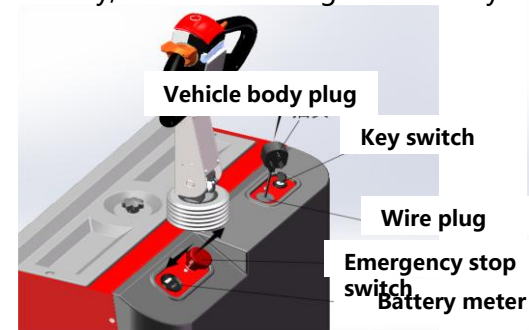

Figure 5-1
5.1.2 Check whether the battery is powered, as shown in Figure 5-1, pull out the main power switch to turn on the main power, open the electric door lock on the handle, and check the energy meter on the vehicle instrument table. If the 0 end is bright, it indicates that the battery has no power at this time, and the battery should be charged. It is forbidden to use the vehicle without power. This will greatly reduce the service life of the battery, and even damage the battery.
5.2.1 Note: This vehicle is equipped with a back-magnetic brake at the end of the drive wheel motor, as shown in Figure 5-1. Pull out the main power switch to turn on the main power supply, unlock the power switch, and push the driving regulator. Only when the back-magnetic brake is powered on and opened can the stacker crane be powered on and operate. In other states, the stacker crane will be de-energized and braked. Ensure that the stacker crane is in a stationary state, the back-magnetic brake is in the locked state, and only then can the goods be lifted. During the lifting process, the vehicle cannot move. When transporting and stacking, ensure that the center of gravity of the goods is at the specified load center position, and the weight of the goods should be less than the weight indicated on the load curve. When stacking, only move forward and backward slowly, and do not perform turning operations.
As shown in Figure 5-1, pull out the main power switch to turn on the main power supply, unlock the electrical door, drive the vehicle to the vicinity of the cargo pile (with the head of the fork 300mm away from the cargo pile), press the lowering button, adjust the fork height to an appropriate position, slowly and as deeply as possible insert the fork into the cargo pallet, press the raising button, until the fork is at a height of 200-300mm from the ground, drive the vehicle to the shelf position and slowly park it 300mm away from the fork head of the shelf, press the raising button, raise the fork to an appropriate height on the shelf (the bottom of the pallet is about 100mm higher than the shelf), slowly move the goods to the exact position on the shelf, press the lowering button, carefully place the goods on the shelf, and release the fork from the goods, slowly drive the vehicle, so that the fork moves out of the cargo pallet (with the fork head 300mm away from the shelf), lower the fork to a height of about 100mm from the ground, and drive the vehicle away from the shelf. During the driving process, pay attention to whether there are obstacles in front, behind, left or right, and slow down when turning.
As shown in Figure 5-1, pull out the main power switch outward, turn on the main power supply, unlock the power door, drive the vehicle to a position near the shelves (with the head of the fork 300mm away from the shelves), press the up button, adjust the fork height to an appropriate position for the shelves, slowly insert the fork as deeply as possible into the goods pallet, press the up button, lift the goods to a height of 100mm from the bottom of the pallet and the shelves, slowly move the vehicle to slowly remove the goods from the shelves (with the head of the fork 300mm away from the shelves), press the down button, lower the fork to a height of 200-300mm from the ground, drive the vehicle away from the shelves, drive to the desired position and slowly stop the vehicle, press the down button, lower the goods, use the fork to completely detach the goods, and slowly remove the fork from the goods pallet.